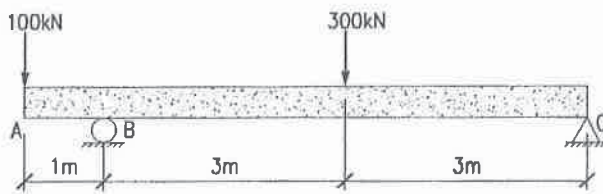

FIGURE B1
- B1. Design a T-section for the simply supported concrete beam, with an overhang as shown in Figure B1. Determine the amount and layout of the steel reinforcement required to satisfy moment and shear. Take into account the self-weight of the beam. (Use  $f'_c = 35$  MPa and  $f_y = 400$  MPa.)